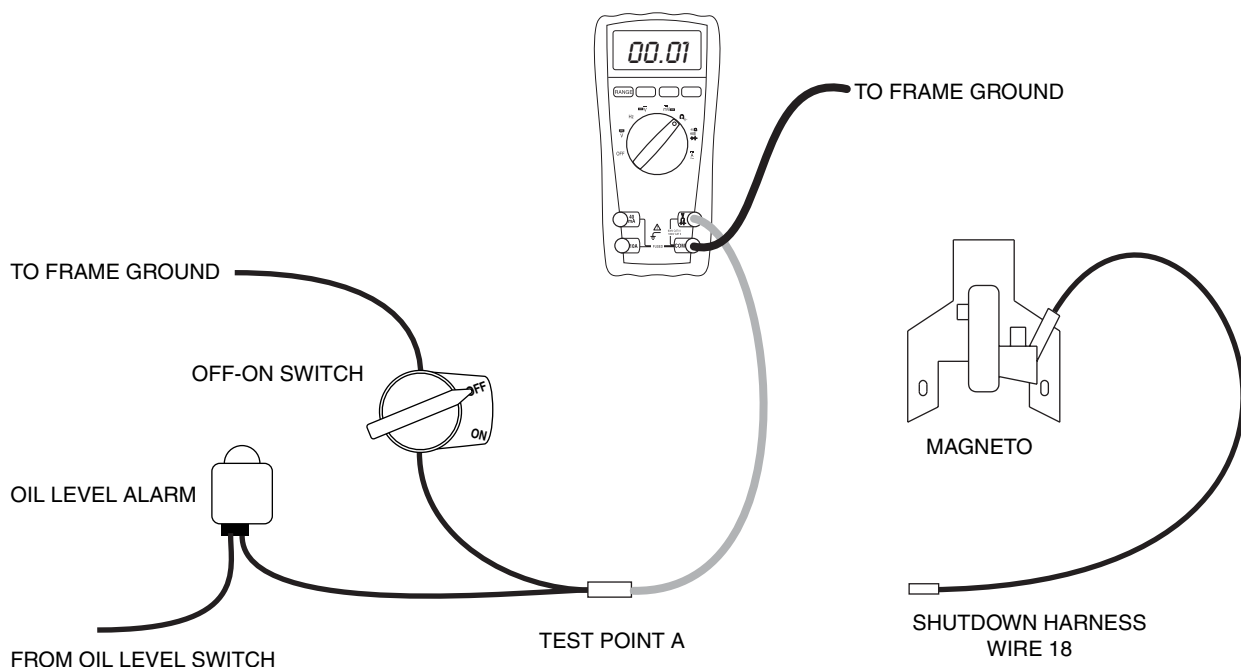

Figure 3. OFF-ON Switch Test Points (389cc Engine)
1. Disconnect Point A from the switch harness (see Figure 3).